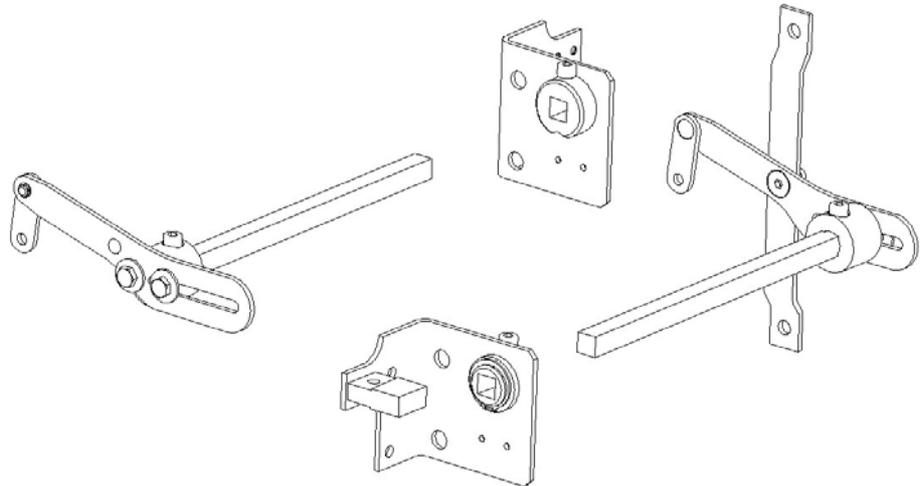

Figure.5
6. MOUNTING PLATES AND ARMS JOINT: Before joining the mounting plates and the arms, it should be checked which is the right plate and which is the left one. The arm with the governor linkage must be introduced in the plate on the side where the lift speed governor is placed and the arm without the governor linkage will be introduced in the other plate. The support cap screw must be tightened in order to fix together the mounting plates and the arms - Fig. 5 -.